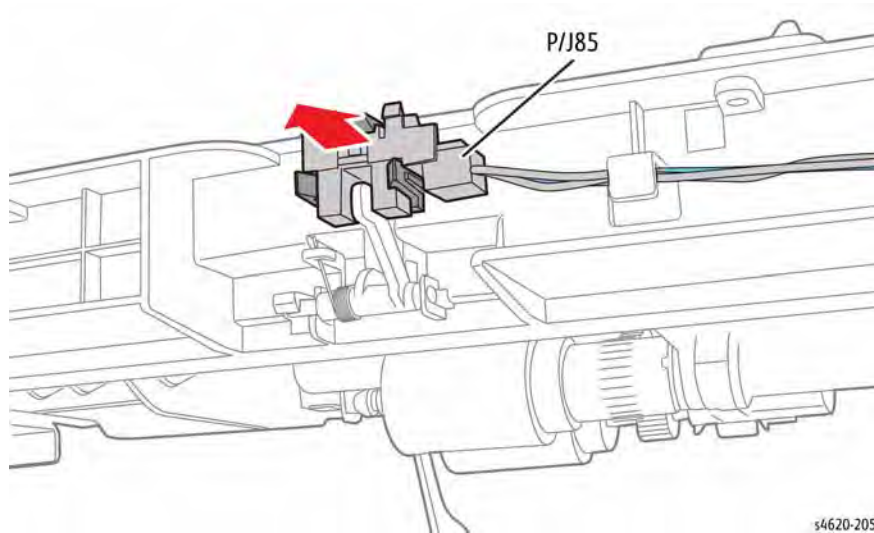

Figure 3 Remove the Take Away Sensor
12. Release the 3 hooks that secure the sensor to the chute, Figure 3.